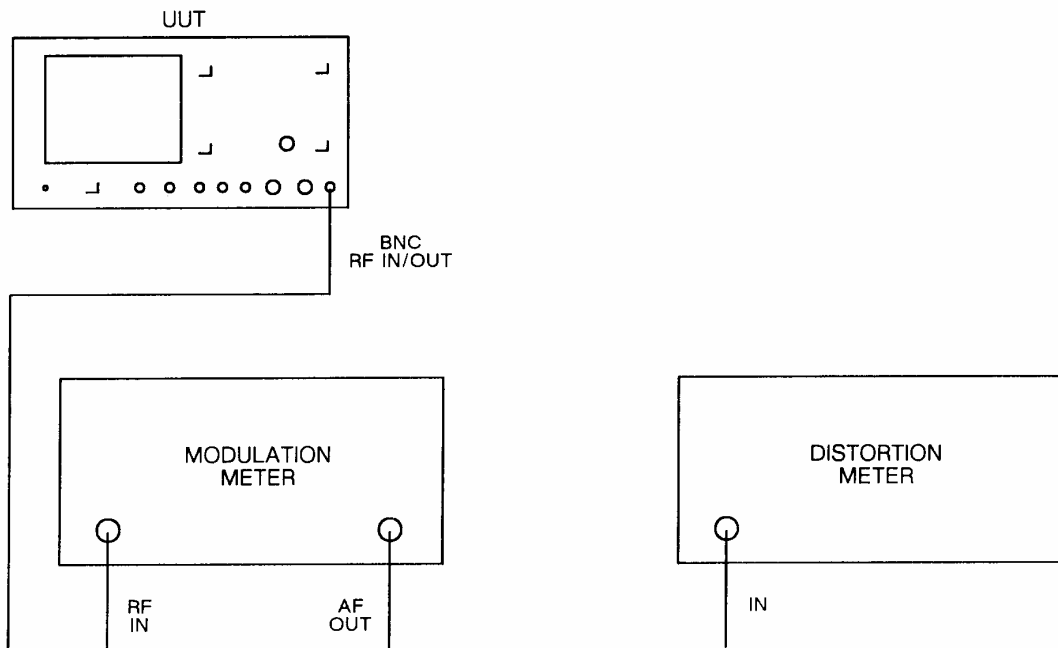

Fig. 5-1-22 Test equipment connections for RF generator AM & FM distortion performance checks
- (1) Connect the equipment as shown in Fig. 5-1-22.
- (2) Set the UUT to RX, RF GEN, carrier frequency 100 MHz, BNC output socket, level 0 dBm, FM frequency 1 kHz sine wave, modulation level 25 kHz, distortion/SINAD/SN off.
- (3) Set the modulation meter to monitor FM with 0.3-3.4 kHz band-pass filter selected.
- (4) Check that the FM deviation indicated on the modulation meter is within  $\pm 7\%$   $\pm 10$  Hz.
- (5) Repeat the above at random deviations between 0 and 25 kHz, and random carrier frequencies between 0.5 and 1000 MHz.
- (6) Repeat for modulation rates between 50 Hz and 15 kHz and check that the modulation meter deviation reading is within  $\pm 10\%$ . Ensure that the correct filters are selected on the modulation meter according to the modulation rate being used.